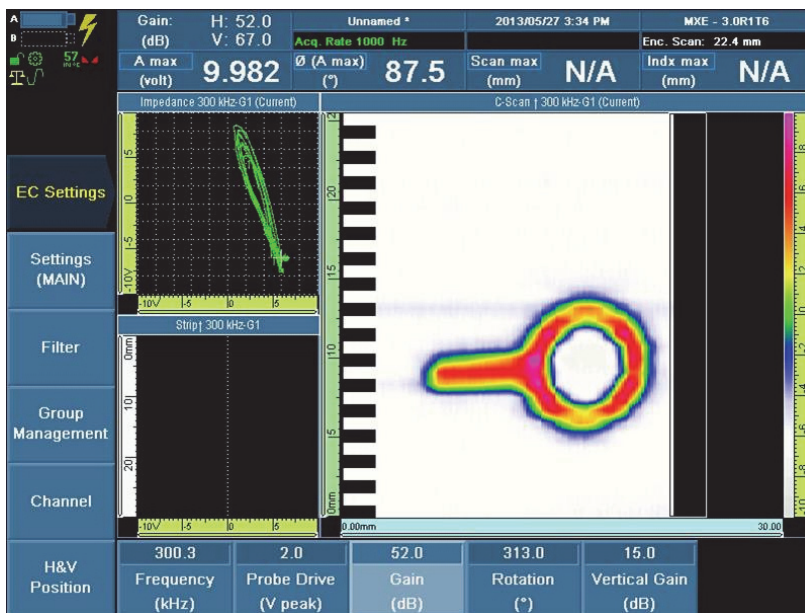

Figure 13-8 Example of a surface breaking crack around a defective fastener
- d) Verify that the good fastener is displayed as a round form and the defective fasteners are displayed as a round form with a point (see Figure 13-8 on page 249).